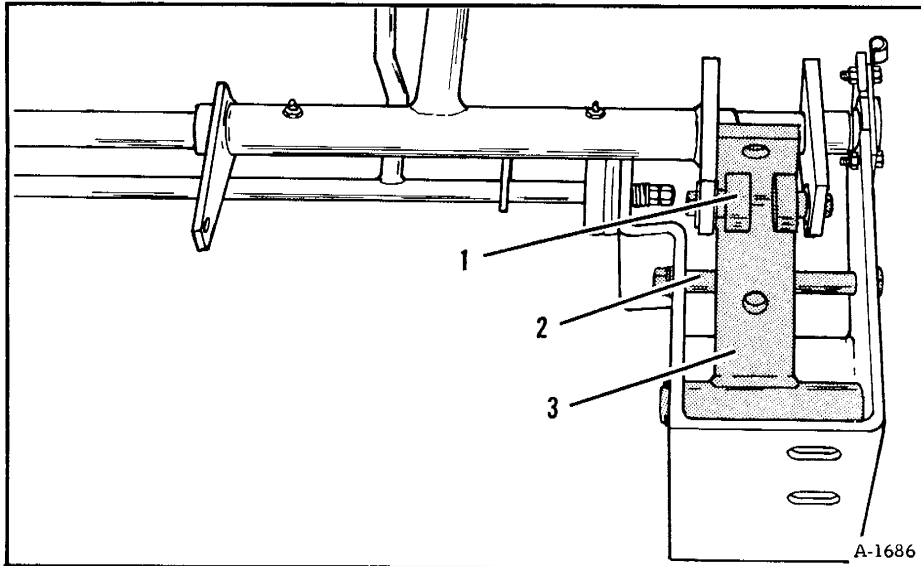

Fig. 89 Directional Control Mechanism
5. Loosen each roller cam mounting nut and position the rollers (Figure 89, Item 1) so they are in full contact with the roller plate (Item 3); Hold the rollers in place and tighten the lock nuts.
7. Adjust the limiting rod (Figure 89 Item 2) by placing the levers all the way forward with the limiting rod loose. Tap the rod until it is against the roller plate. Back off on the steering levers slightly and tap the